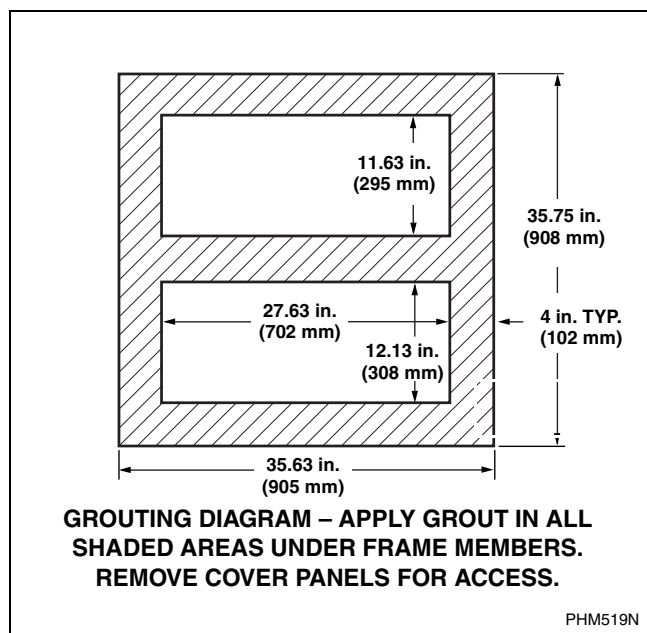

Figure 5
- Set machine over bolts and shim the machine so that it sits level and is 1/2 inch off the floor. Apply machine grout between the floor and all frame members of the base of the machine (remove front panel and expanded metal back panel to gain access to all frame members). Force grout under machine base until all voids are filled. Refer to *Figure 5*.